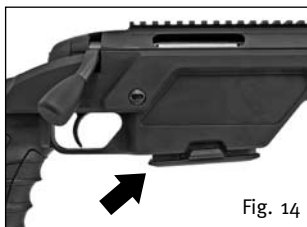

Fig. 14
1. First, make certain that the magazine has been removed or locked in second position (Fig. 14) and the weapon is unloaded!